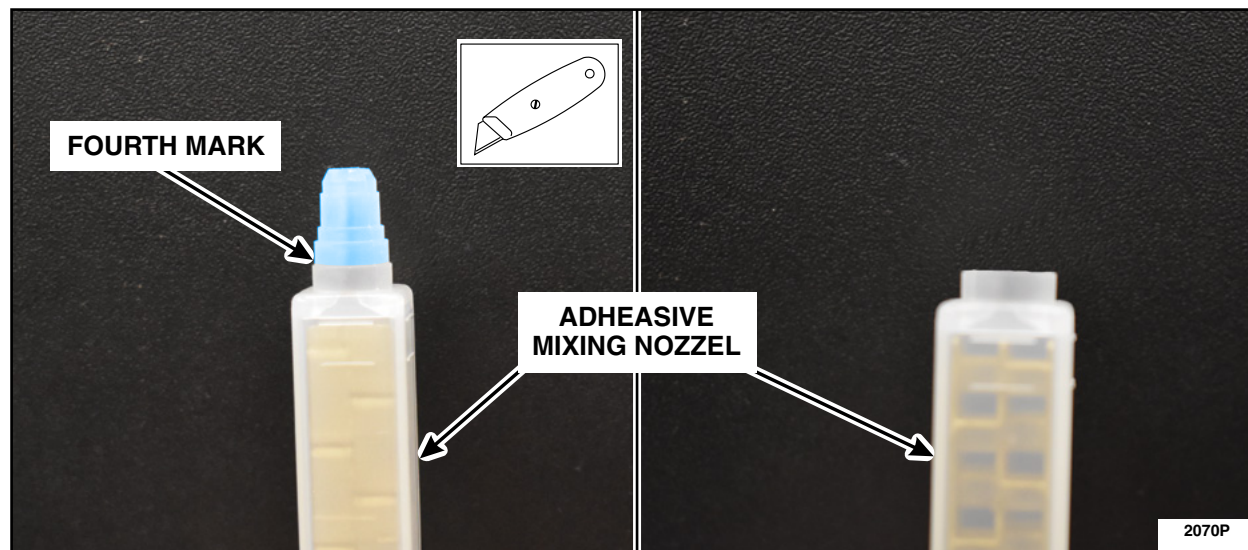

FIGURE 11
11. Cut off the tip of the adhesive mixing nozzle at the fourth mark. See Figure 11.